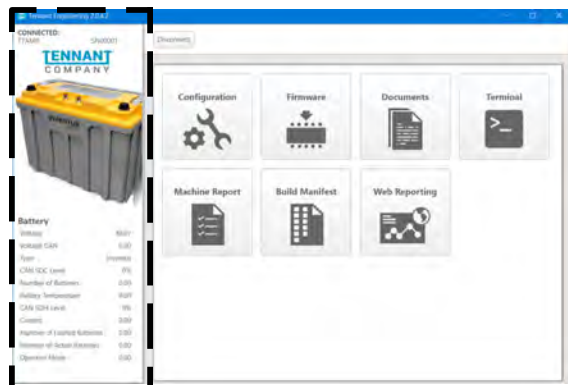

FIG. 16
6. Use the Service Diagnostics tool to access the lithium battery screen. (Fig. 16)